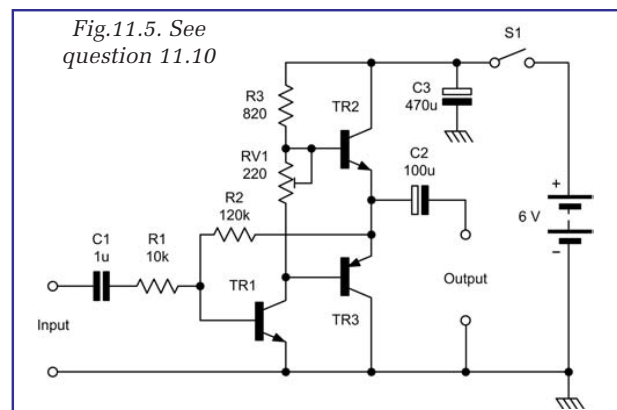

Fig.11.5. See question 11.10
11.10. Fig.11.5 shows the circuit of a simple headphone amplifier in which all of the fixed resistors have a tolerance of ±5%.